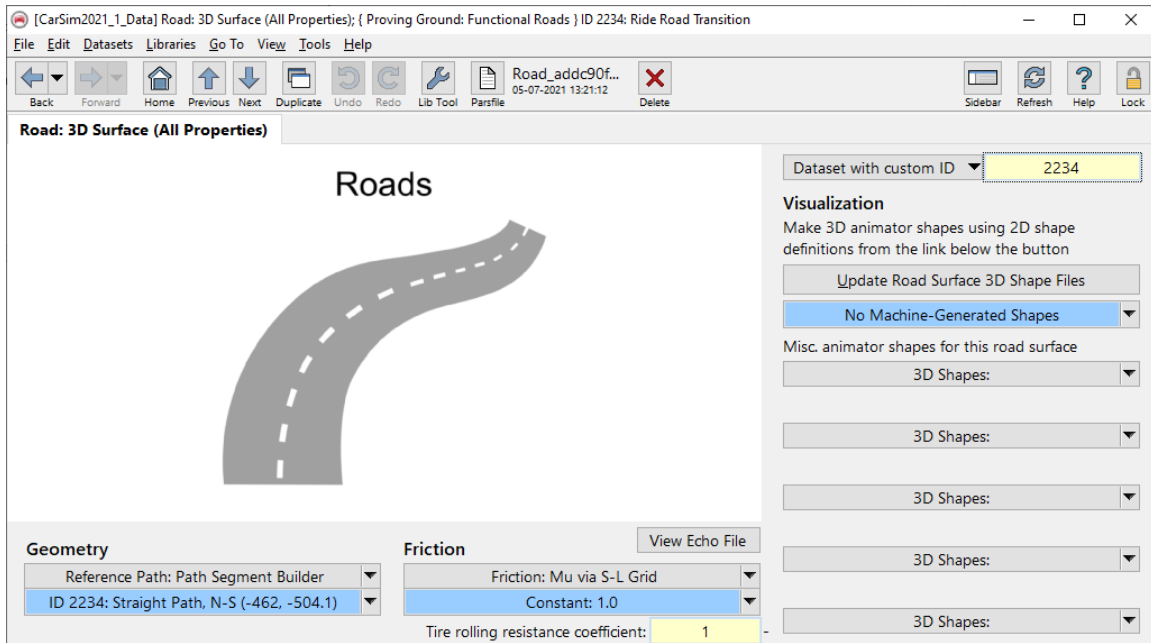

Figure 33. Ride Road transition road (ID = 2234).
- An intermediate road (Figure 33, ID 2234) is defined to be between (and is parallel to) the entry and exit of the Ride Road. It is also adjacent and perpendicular to VDA South.